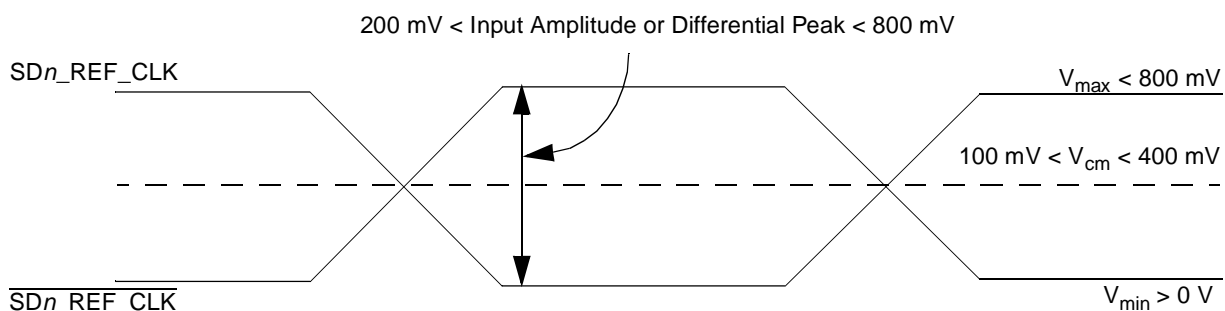

Figure 56. Differential Reference Clock Input DC Requirements (External DC-Coupled)
- For **external DC-coupled** connection, as described in Section 20.2.1, “SerDes Reference Clock Receiver Characteristics,” the maximum average current requirements sets the requirement for average voltage (common mode voltage) to be between 100 mV and 400 mV. Figure 56 shows the SerDes reference clock input requirement for DC-coupled connection scheme.